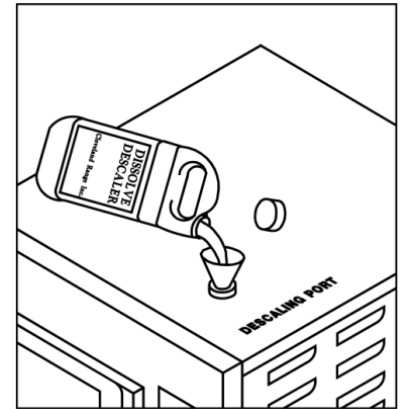

Figure 8-1
- e. Remove descaling port cap (see Figure 8-1).